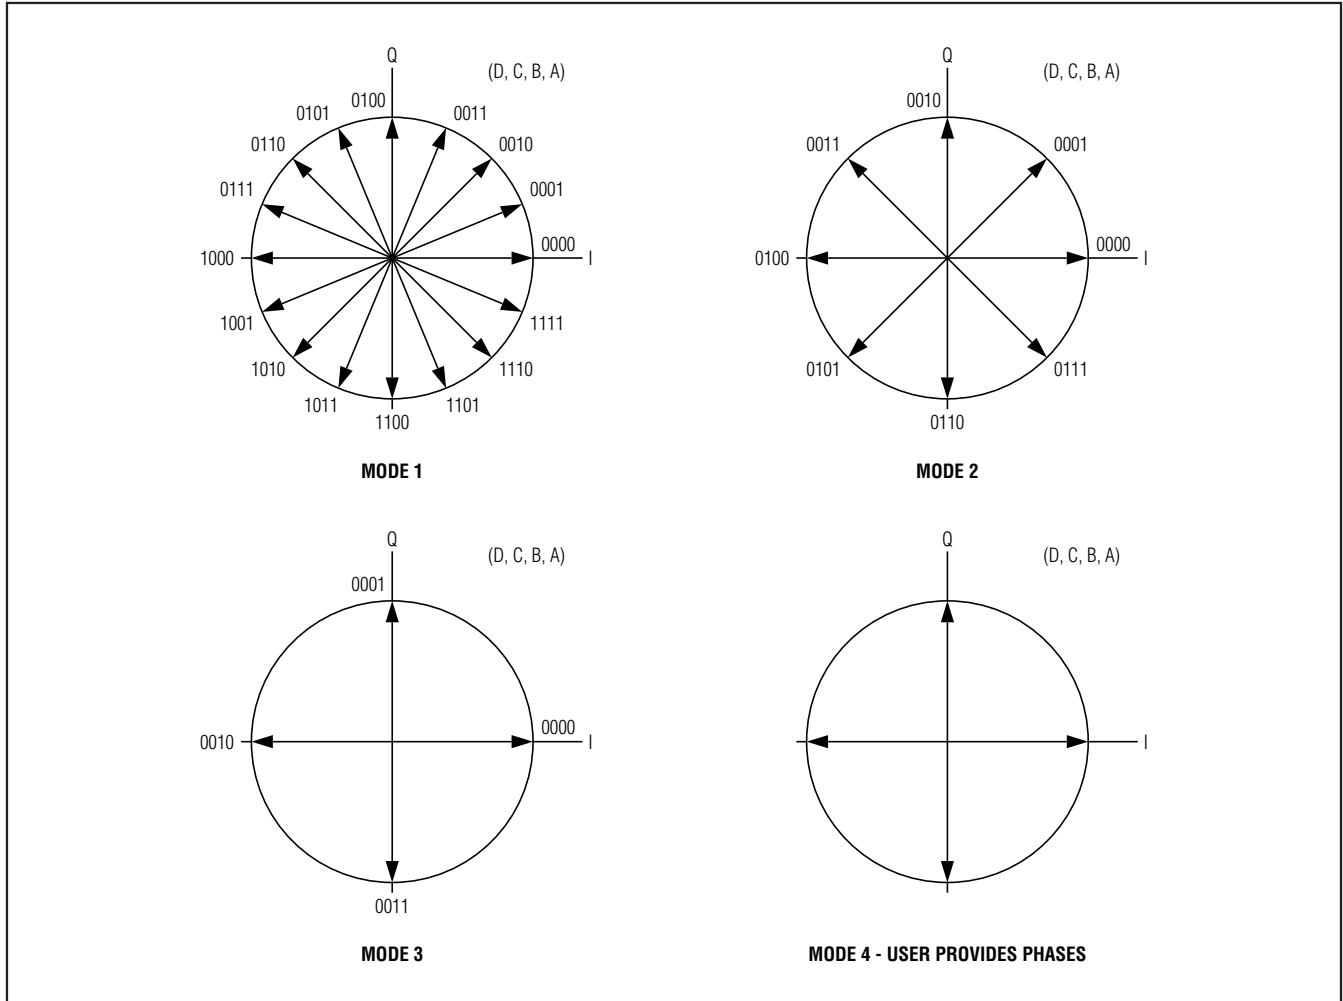

Figure 1. Phasor Representation of the Different Modes
- 7) Follow Figures 1 and 2 to program the registers. Voltages measured at I and Q are the phasor representations of the modes.